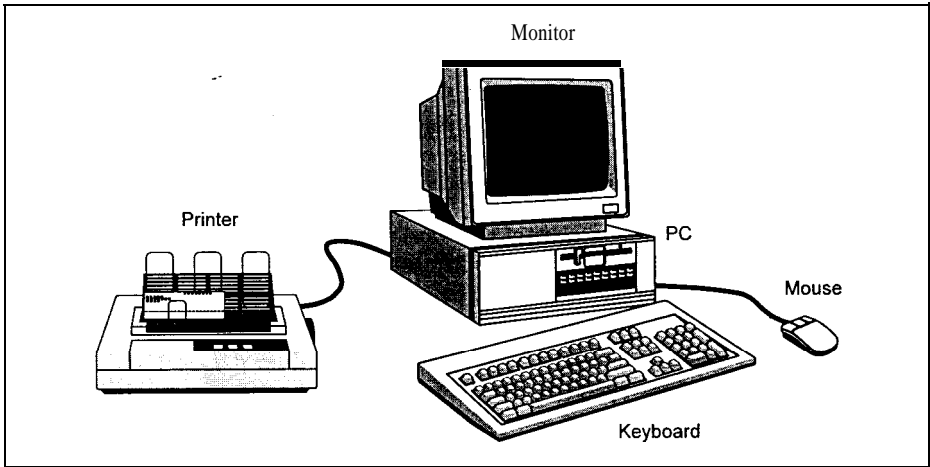

Figure 1.1: Basic PC equipment.
Personal computer (PC), by definition, means that users actually work with their own «personal» computer. This usually means IBM-compatible computers using the DOS, OS/2 or Windows (NT) operating system. Mainframe users may wonder what the difference is between a PC and a *terminal*: after all, a terminal also has a monitor, a keyboard and a small case like the PC, and looks much the same as that shown in Figure 1.1. Where there is a difference is that the PC contains a small but complete computer, with a processor (hidden behind the names 8086/8088, 80286 or i486, for example) and a floppy disk drive. This computer carries out data processing on its own: that is, it can process files, do mathematical calculations, and much more besides. On the other hand, a terminal only establishes a connection to the actual computer (the mainframe). The terminal can't carry out data processing on its own, being more a monitor with poor input and output capabilities that can be located up to a few kilometres away from the actual computer. That a small PC is less powerful than a mainframe occupying a whole building seems obvious (although this has changed with the introduction of the Pentium), but that is only true today. One of the first computers (called *ENIAC*, developed between 1943 and 1946, which worked with tubes instead of transistors) occupied a large building, and consumed so much electricity that the whole data processing institute could be heated by the dissipated power! Nevertheless, ENIAC was far less powerful than today's PCs.
Figure 1.1 shows a basic PC workstation. The hub, of course, is the PC, where you find not only the above-mentioned processor but one or more floppy disk drives, hard drives, interfaces and other devices. These are dealt with in some detail in Section 1.2. Because you can't enter